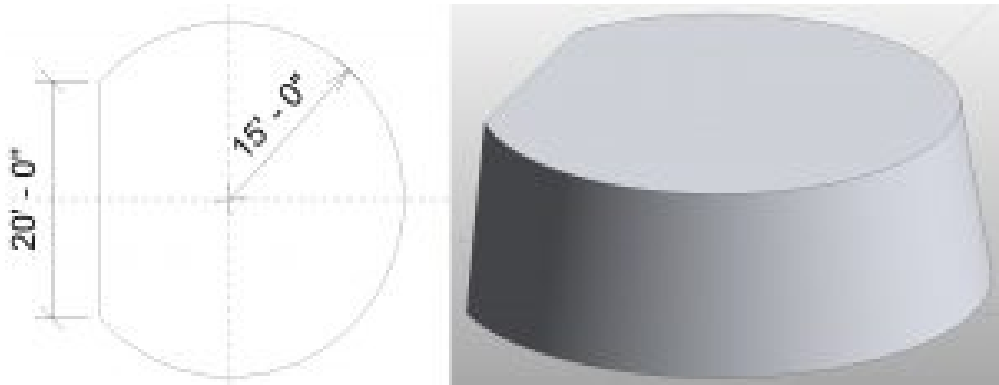

Figure 6.6 Conceptual mass shown with dimensions in plan view and in 3D view
6. Use the Line tool  to draw the shape shown in Figure 6.6